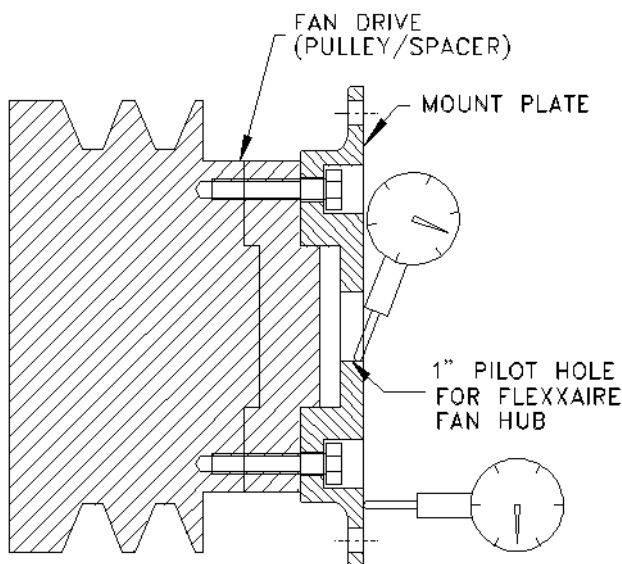

Figure 3
1. Install the Flexxaire supplied mounting adapter using bolts from the original fan. If the bolt length needs to be changed, use an equivalent or better grade of bolt. Follow original equipment manufacturer's torque and thread locking specifications when installing the mounting adapter to the fan drive. Refer to **Figure 3**.
2. Set up dial gauge to measure axial deviation of the mounting adapter on the fan mounting surface. Deviation should not exceed 0.005". Refer to **Figure 3**.
3. Set up dial gauge to measure radial deviation of the mounting adapter on the 1" pilot hole surface. Deviation should not exceed 0.005". Refer to **Figure 3**.